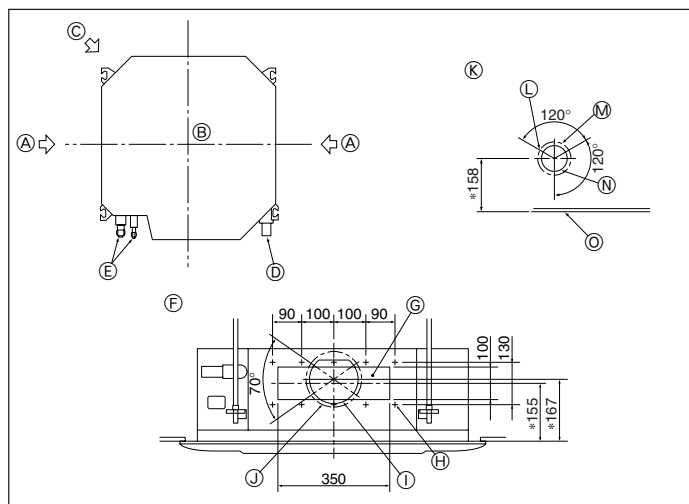

Fig. 3-3
3.3. Branch duct hole and fresh air intake hole (Fig. 3-3)